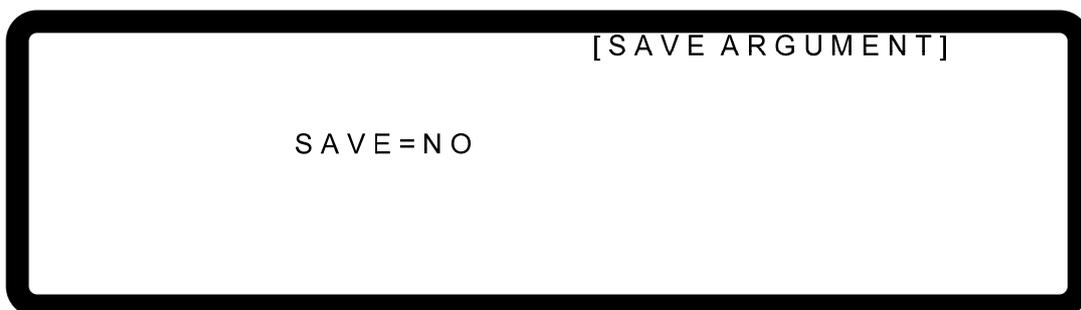

Figure 3-120
8. The APG current calibration is done once the above actions are completed. To save the calibration data, press will prompt a confirmation page as Figure 3-120 shows. Press or "Rotary" (⊙) to set SAVE=YES and press to save it. If there is no need to save it, press to return to the Calibration screen.